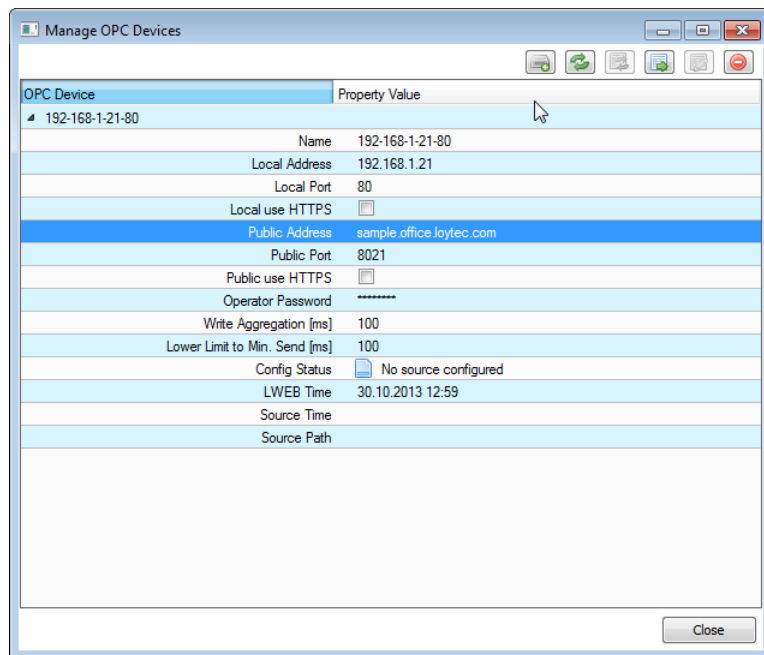

Figure 68: Manage OPC Device, Configure Public Address and Port
- 2) In the input field **Public Address**, enter the IP address or hostname of your router and in the **Public Port** enter the external port which you configured in the port forwarding (see Figure 68).